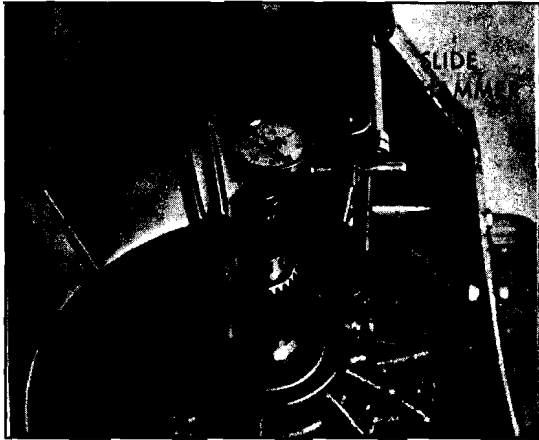

Fig. 7G-116 Checking Front Unit End Play
31. Check front unit end play as follows (Fig. 7G-116):